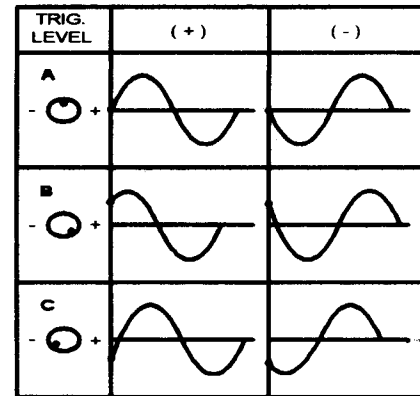

Fig. 3. Effects of triggering LEVEL control
To use normal triggering mode, apply a vertical input signal to the INPUT connector (13). Set the scope controls for a basic signal display. Set the MODE switch to the NORM position. The voltage level of the displayed waveform that triggers the horizontal sweep is now controlled by the LEVEL control (8). If the input is a sine wave, the function of the LEVEL control is shown in Fig. 3. With the LEVEL control pushed in (column (+) in Fig. 3) the trigger will occur on the positive-going portion of the waveform. When the LEVEL control is pulled out, the trigger will occur on the negative-going slope of the waveform (column (-) in Fig. 3) When the LEVEL control is moved clockwise, the triggering point will move more positive on the waveform (line B on Fig. 3). If the LEVEL control is turned counterclockwise, the triggering point will move more negative on the waveform (line C on Fig. 3) The display must be at least one division high to obtain proper triggering. Turning the trigger LEVEL control to the extremes may cause the trigger level to be set beyond the voltages of the displayed signal. which will result in cessation of the sweep. In the normal trigger mode, the horizontal sweep will not begin without a trigger. Once the sweep is triggered, it will make one sweep at the rate set by the TIME/DIV. and the SWP. VAR control, then it will wait for the next trigger pulse.